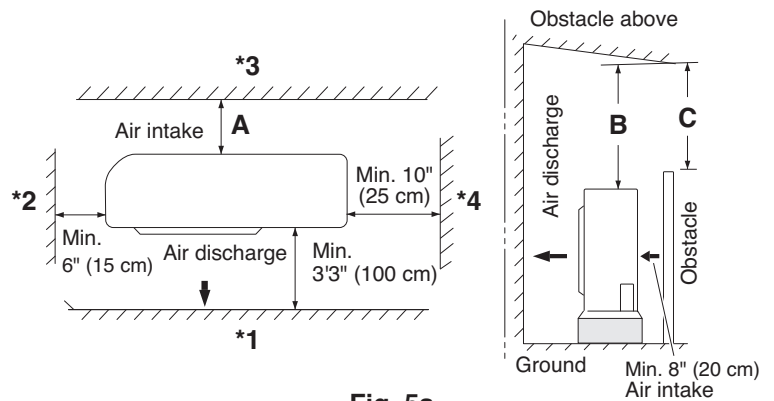

Fig. 5a
- install in a location where at least two sides are unobstructed, so that the flow of air at the intake port or exhaust port is not blocked, and so that sufficient space is ensured for maintenance to be carried out without trouble. In general the top also must be unobstructed. (Fig. 5a)
- Concerning air-intake side distance "A" (Fig. 5a)
- If wall *1 is on the air-discharge side (Fig. 5a), or if obstructions are present on all 3 sides *2, *3, and *4 (Fig. 5a), then the minimum distance for "B" and "C" is 39-3/8". Even if there is no wall on the air-discharge side, a minimum of 39-3/8" is required.